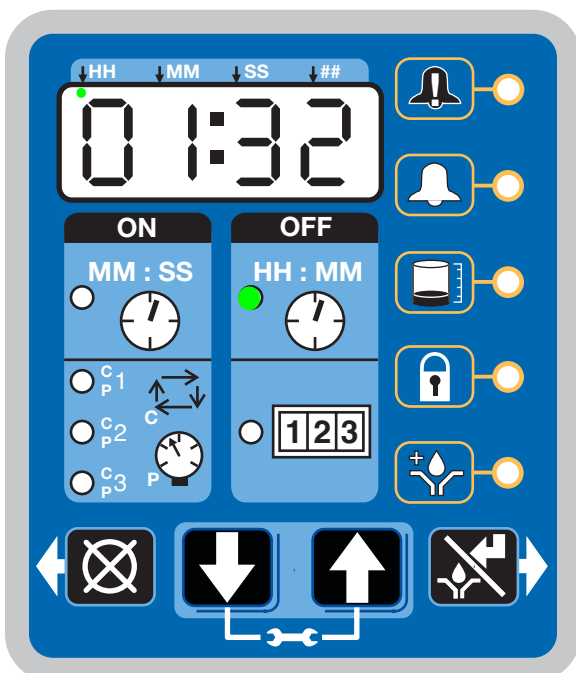

FIG. 28
After setup is complete, the G3 automatically begins to run the OFF Time sequence (FIG. 28).
- The example shown in FIG. 28 shows an OFF Time of 1 hour and 32 minutes before the lubrication cycle begins.
- When the ON Time count reaches zero, the pump shuts off again and the system again runs OFF Time cycle and the OFF Time LED is now again illuminated (FIG. 28).